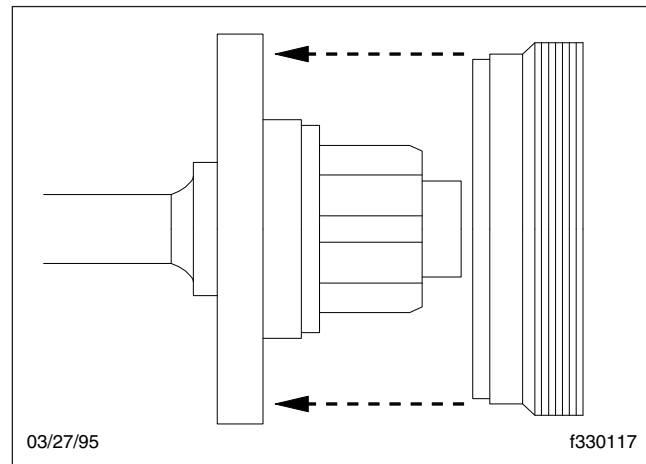

Fig. 4, Seal Placement on Tool
- 6.1 Place the Outrunner seal tool with the words "air side" facing the adaptor plate of the installation tool. See Fig. 4. Lubricate the seal outer circumference with wheel bearing oil.